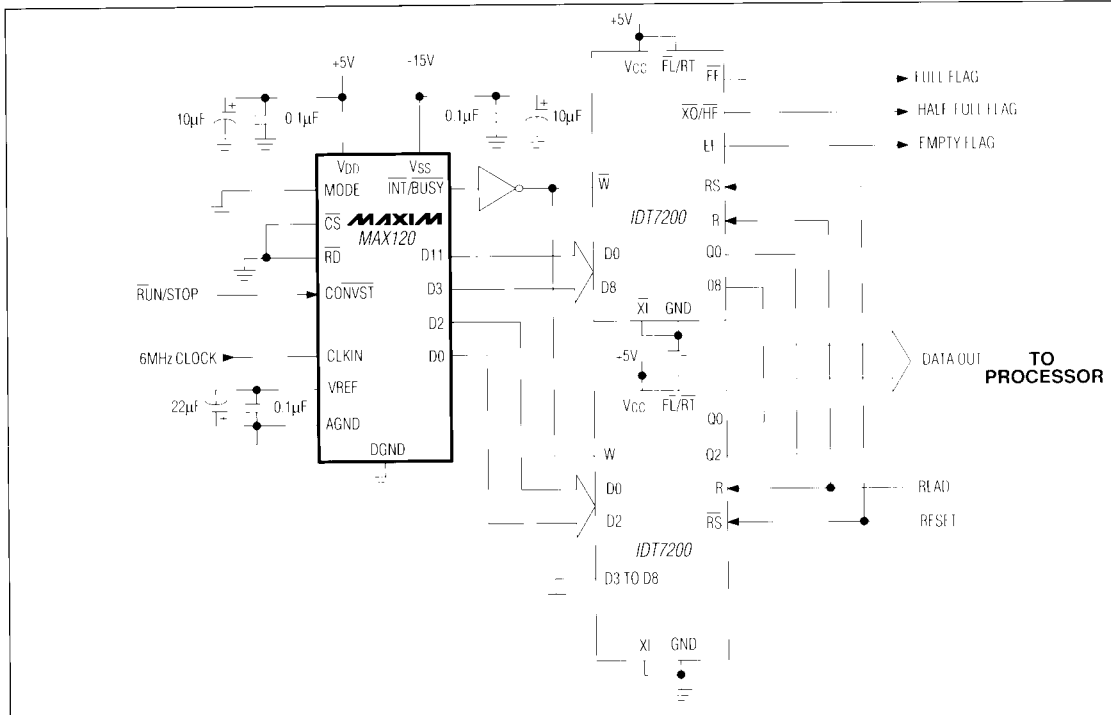

Figure 13. Using MAX120 with FIFO Memory
Using FIFO memory to buffer blocks of data from the MAX120 reduces  $\mu\text{P}$  interrupt overhead time by enabling the  $\mu\text{P}$  to process data while the MAX120, unassisted, writes conversion results to the FIFO. To retrieve a block of data, the  $\mu\text{P}$  reads from the FIFO via a read-interrupt cycle. Read and write operations for the FIFO are completely asynchronous. Figure 13 shows the MAX120 operating in continuous-conversion mode (mode 5), writing data directly into the two IDT7200 256 x 9 FIFO buffers at the rate of 428kps. The  $\mu\text{P}$  is interrupted to read the accumulated data by the FIFO's half-full (HF) flag approximately three times per millisecond. For operation at 500kps, use an 8MHz clock, and pulse CONVST at 500kHz. The full flag (FF) indicates that the FIFO is full. If this flag is ignored, data may be lost. If necessary, conversions can be inhibited by pulling  $\overline{\text{CS}}$ ,  $\overline{\text{RD}}$ , or CONVST high. The FIFO's read cycle times are as fast as 15ns, satisfying most system speed requirements. The RESET input resets all data in the FIFO to zero.